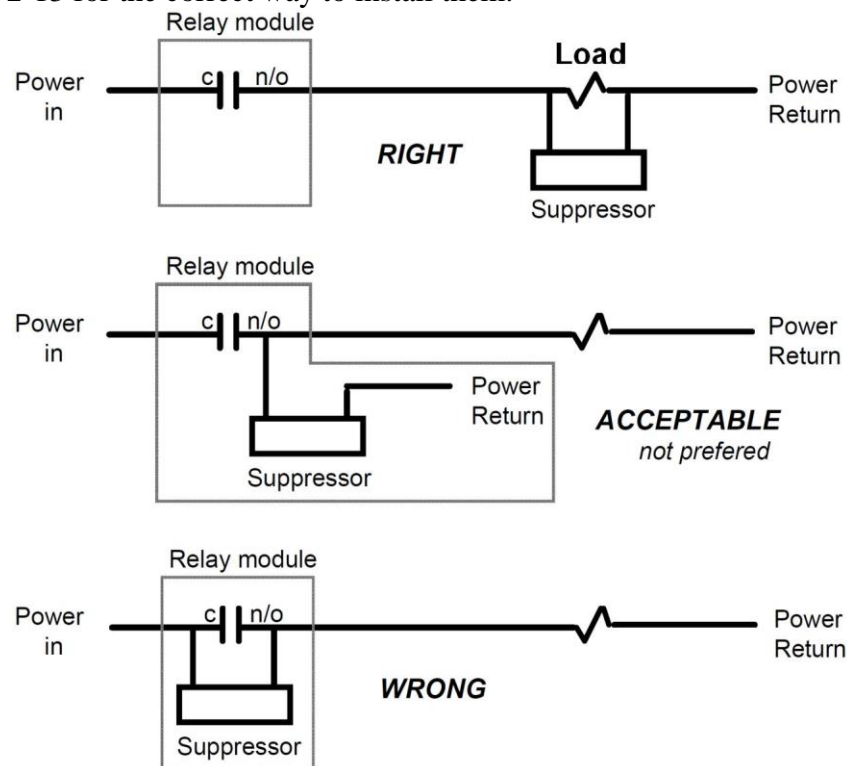

Figure 2-13. How to connect suppressors across the load
11. Install the suppressors across the load or as close to the load as possible. Attach suppressors by connecting leads across existing terminals or junction points. See Figure 2-13 for the correct way to install them.